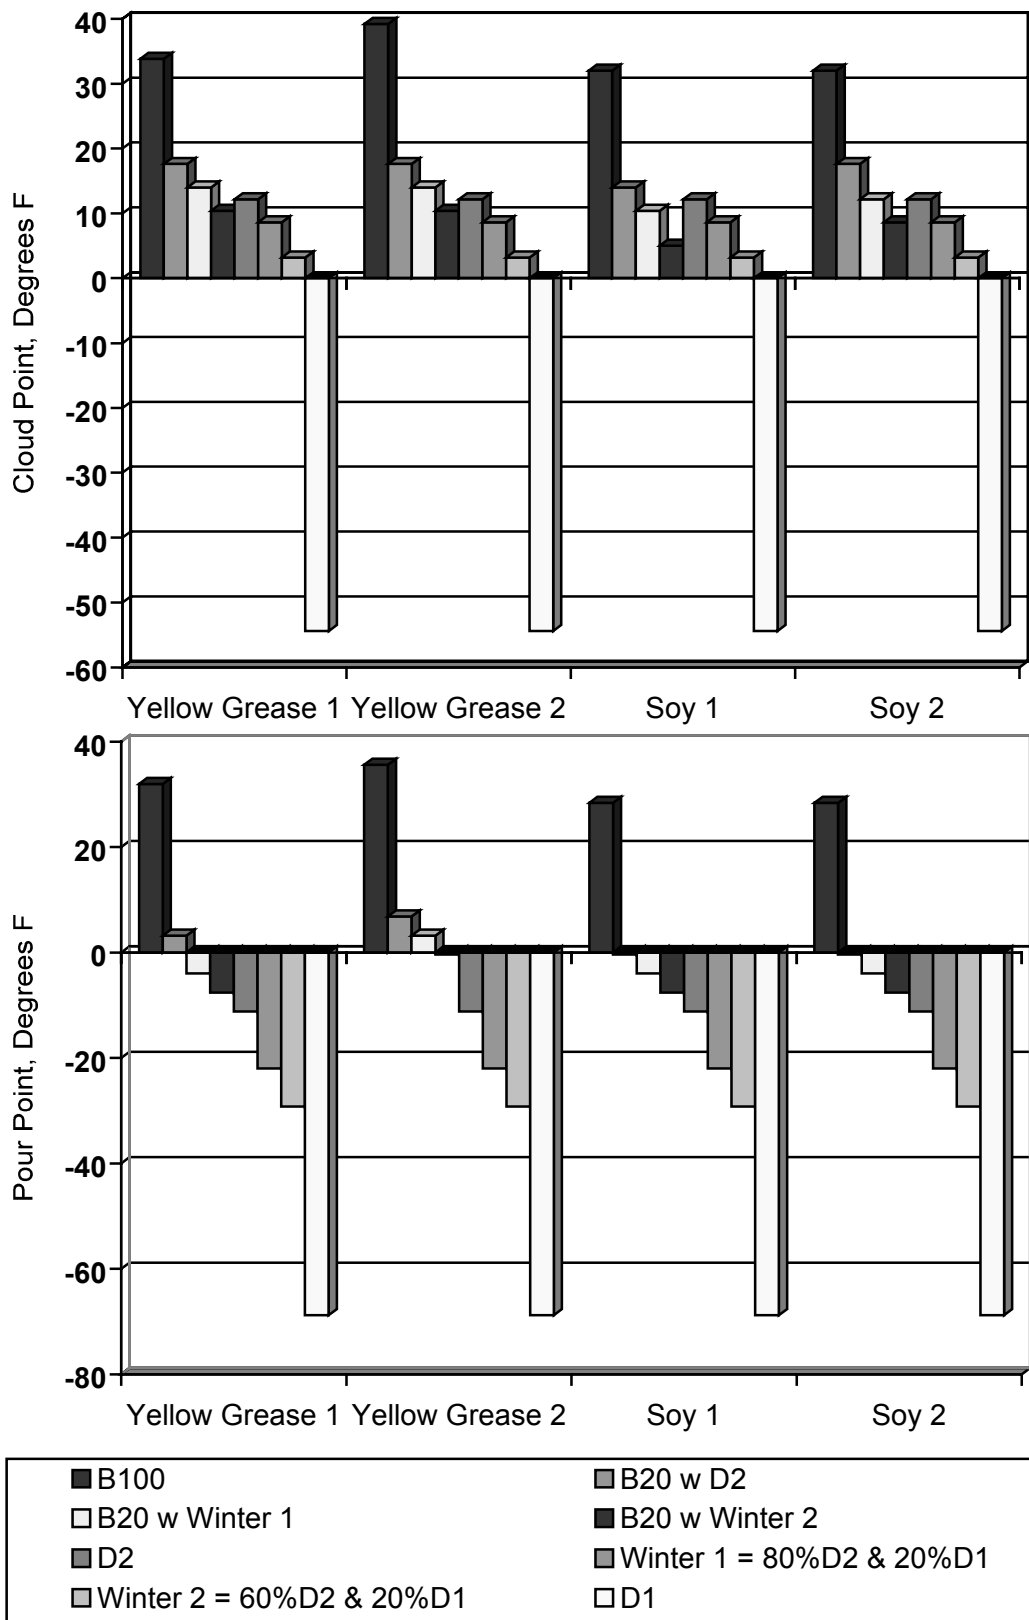

Figure 1. Cold Weather Properties of Biodiesel Fuels and Blends
- Adjusting the blend of kerosene in the diesel fuel can modify the cloud and pour point temperatures of B20. Figure 1 shows the cloud and pour point for several different types of B100 and the impact on cloud and pour when B20 is produced from different diesel fuels. B20 with D2 is a blend of 20% biodiesel with 80% straight diesel No. 2. The other two B20 blends shown are blends of 20% biodiesel with 80% winterized diesel fuel. In one case the winterized diesel consists of 80% No. 2 and 20% No. 1 and in the other case the winterized diesel consists of 60% No. 2 and 40% No. 1. The cloud and pour points of the No. 2, No. 1, and the two winterized diesel fuels are also shown for comparison. The point of the chart is to show that you can produce a B20 fuel that has the desired cloud and pour points by adjusting the amount of No. 1 diesel in the diesel fraction of the mix.